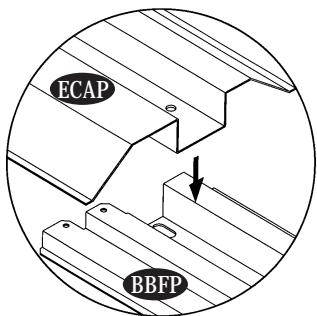

Fig. 1
**12.** Place the entrance taper channel (ECAP) on top of the (BBFP). Secure with (S1) screws to the foundation. See fig. 1 & 2.